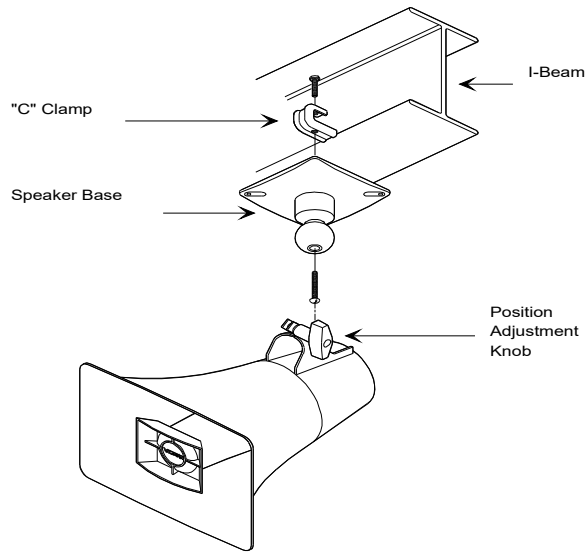

Figure 1 - Mounting to a Beam with a "C" Clamp
- A "C" clamp is provided with the ringer to allow mounting to a beam. Place the bolt through the hole in the bottom of the base to secure the "C" clamp to the beam (see Figure 1).
The V-9925A may be rotated or moved up and down to obtain the desired position by loosening the knob at the bottom of the unit approximately 1 turn (see Figures 1 and 2). Make required adjustment and re-tighten knob.